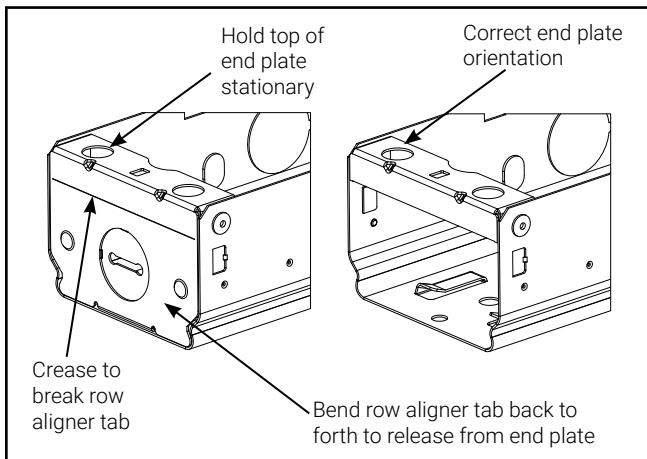

Figure 4.
3. Hold top of end plate, bend lower portion of end plate to separate row aligner (Figure 4).
6. Ensure top part of the end plate is in the same orientation as shown in Figure 4.